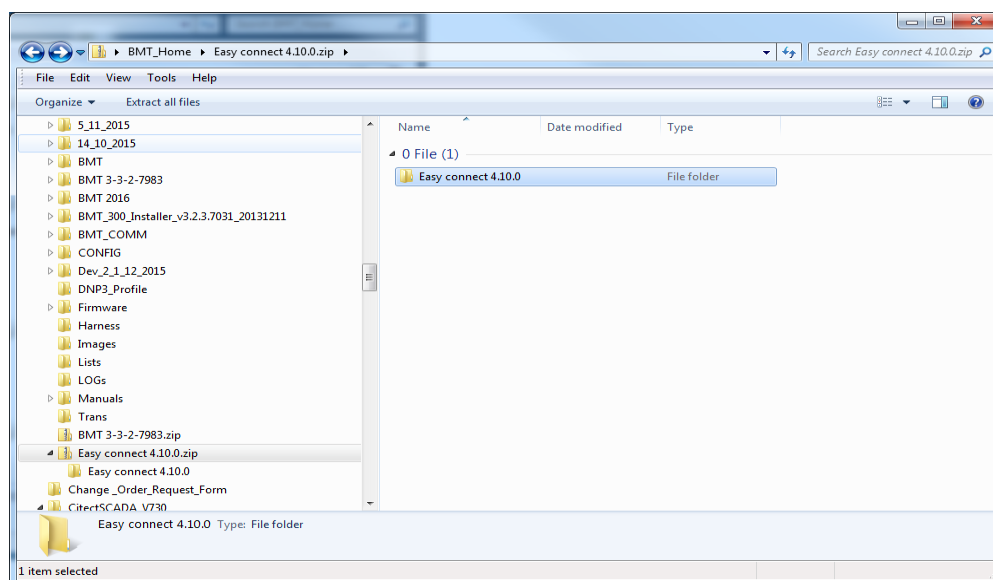

Figure E-4: EasyConnect 4.10.0 folder
2. Right click the **EasyConnect 4.10.0.zip** file and extract the software application to a folder on the local PC as shown in Figure E-4.